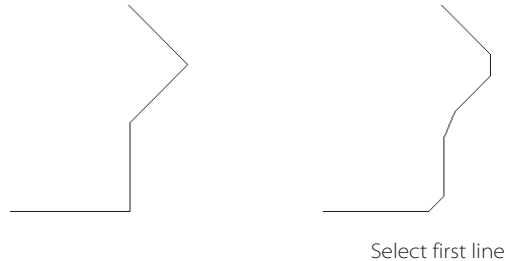

Figure 5.6
7. At the Select second line: prompt, select the other line. The two lines are joined with a chamfer, as shown in Figure 5.6.
**Polyline** Applies the chamfer to all the corners of a polyline composed of straight-line segments (shown earlier in Figure 5.6).